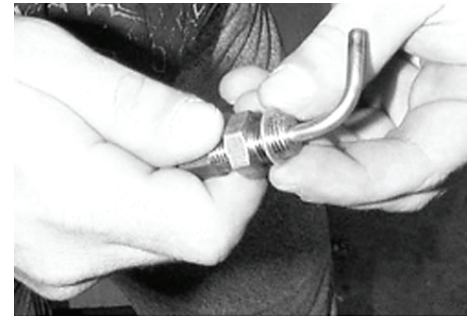

Figure 10
- A. Place aluminum washer against bushing on thermistor probe (item #2, page 3) (see figure 10).